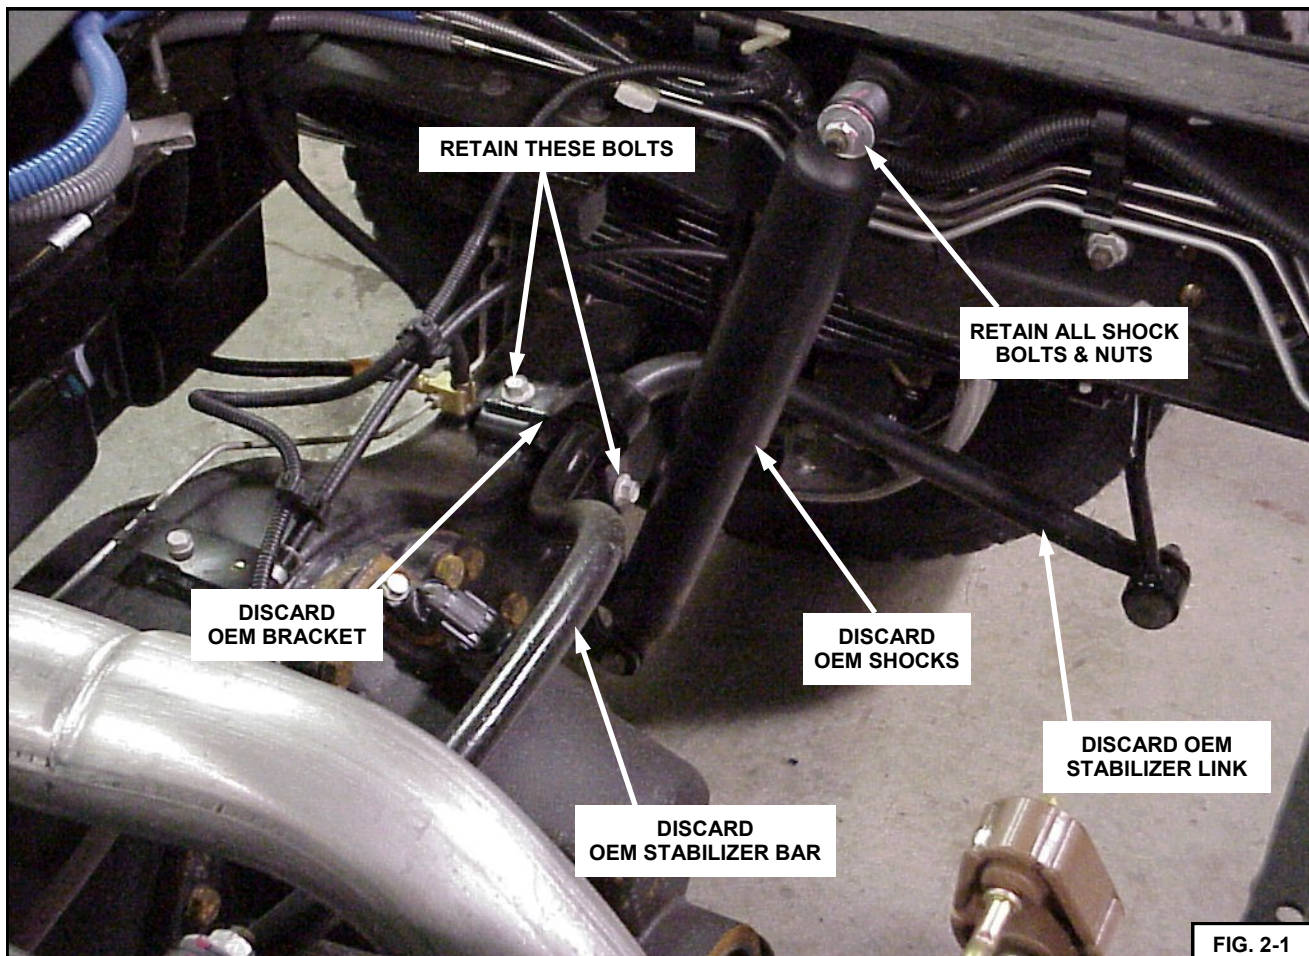

FIG. 2-1
2. Remove the OEM **stabilizer bar** and **brackets/linkages** from the axle and frame. Retain the bolts from the axle brackets for future use. See Figure 2-1. Reattach the brake cable to the passenger side stabilizer bar bracket location (same location as before removing brackets).